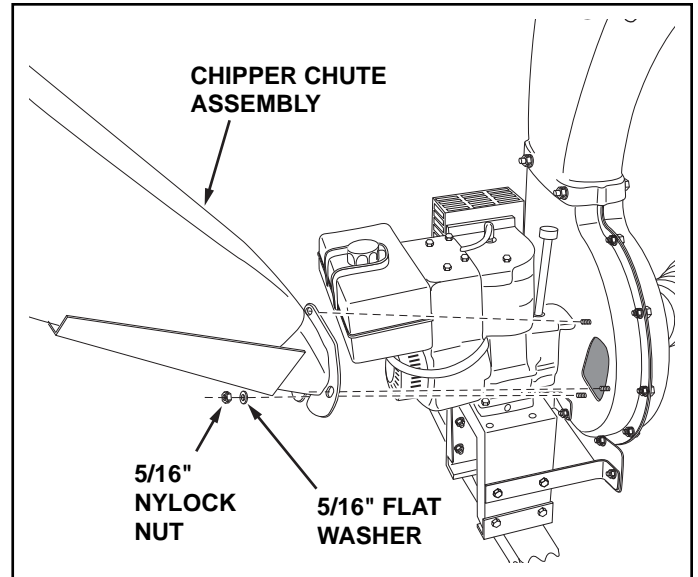

FIGURE 20
36. Attach the chipper chute assembly to the weld bolts on the back side of the impeller housing using three 5/16" flat washers and 5/16" Nylock nuts. **Tighten.** See figure 20.